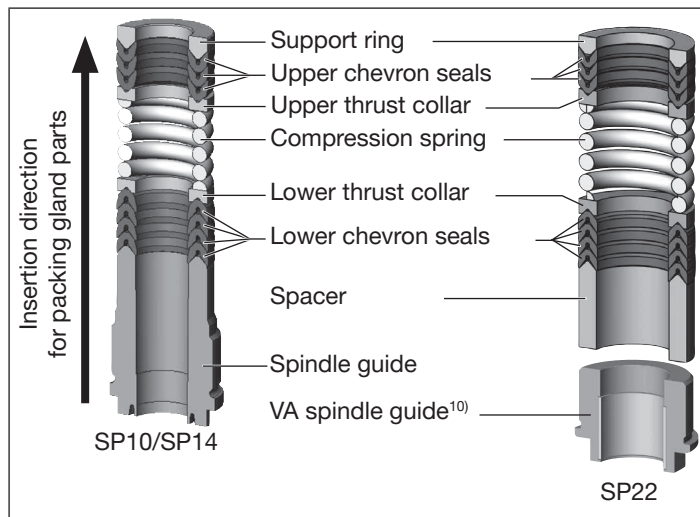

Fig. 33: Seal set for packing gland
- Place individual parts on the spindle in the specified direction and sequence (as shown in “Fig. 33: Seal set for packing gland”).